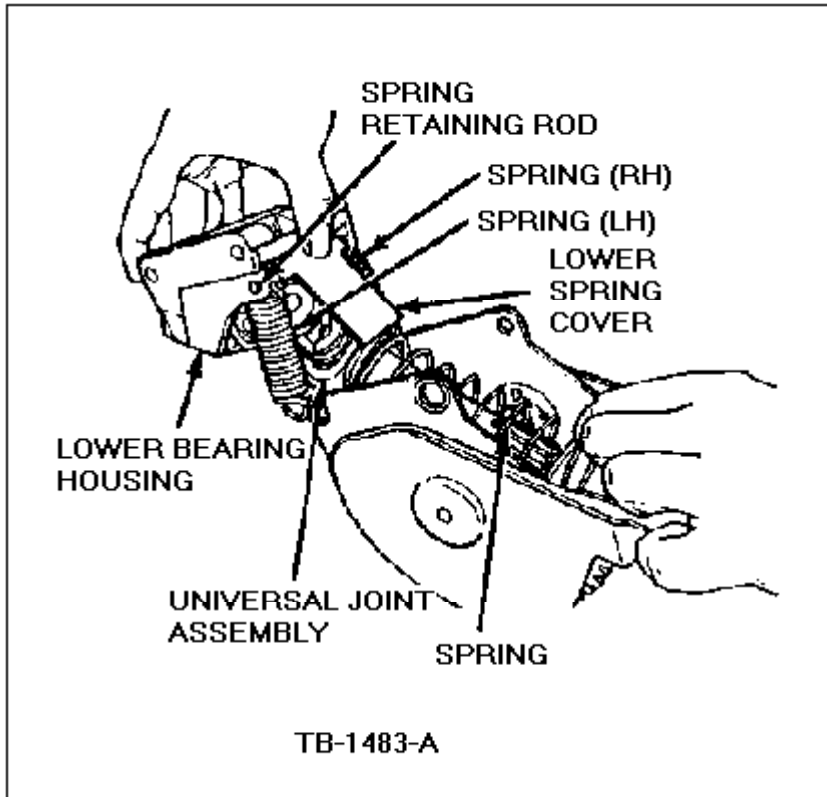

Figure 16 - Article 90-5-10
19. Remove the lower bearing housing and universal joint assembly and spring from the main housing assembly, Figure 16.
20. Remove the lower spring cover, springs and spring retaining rod from the lower bearing housing, Figure 16.